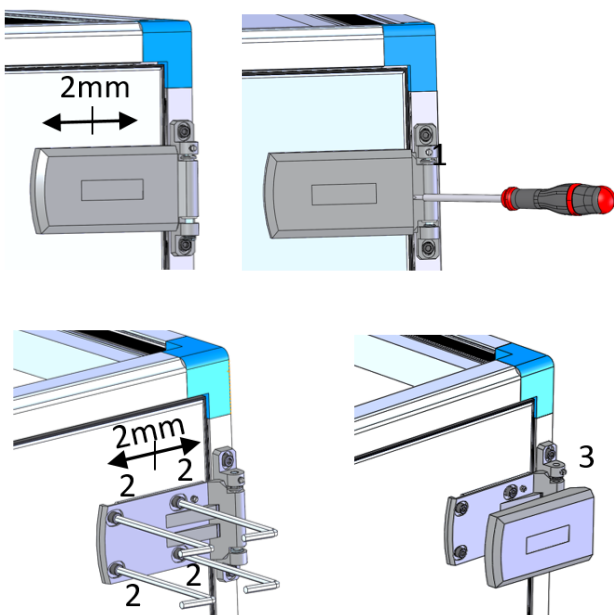

Figure 34
- Follow the steps in Figure 34.
- Remove protective PVC cover from the hinge (1)
- Unscrew screws (2)
- Place PVC cover back on the hinge (3)